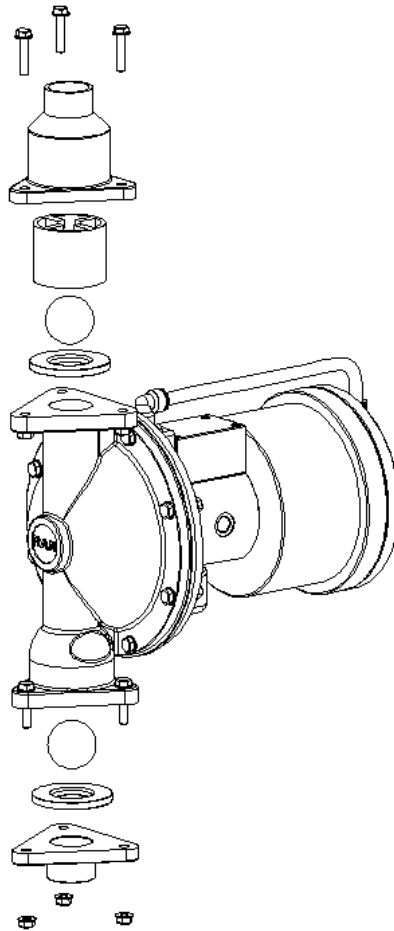

Figure 10- check valve repair
See figure 10.
- 2-Follow all notes in Figure 10 and apply all steps reversely and assembly it again.